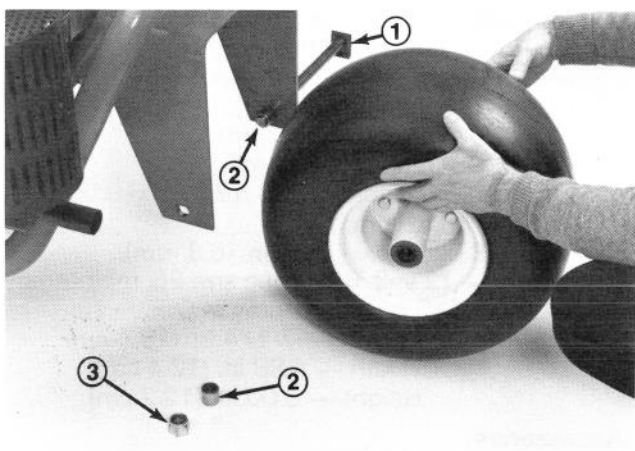

Figure 2
2. Install the rear wheel in the castor fork. Insert the bolt into one of the mounting holes, install a spacer and slide the bolt through the wheel. (Fig. 2).
3. Install another spacer onto the bolt and route the bolt through the remaining castor fork mounting hole (Fig. 2).